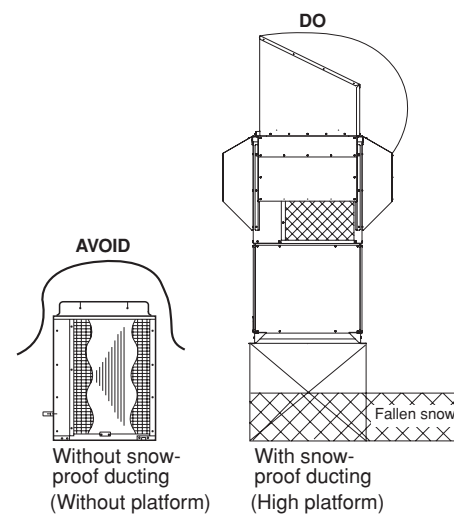

Fig. 2-5
In regions with heavy snowfall, the outdoor unit should be provided with a solid, raised platform and snow-proof ducting (field supply). (Fig. 2-5)
- a) The platform should be higher than the maximum snow depth. (Fig. 2-5)